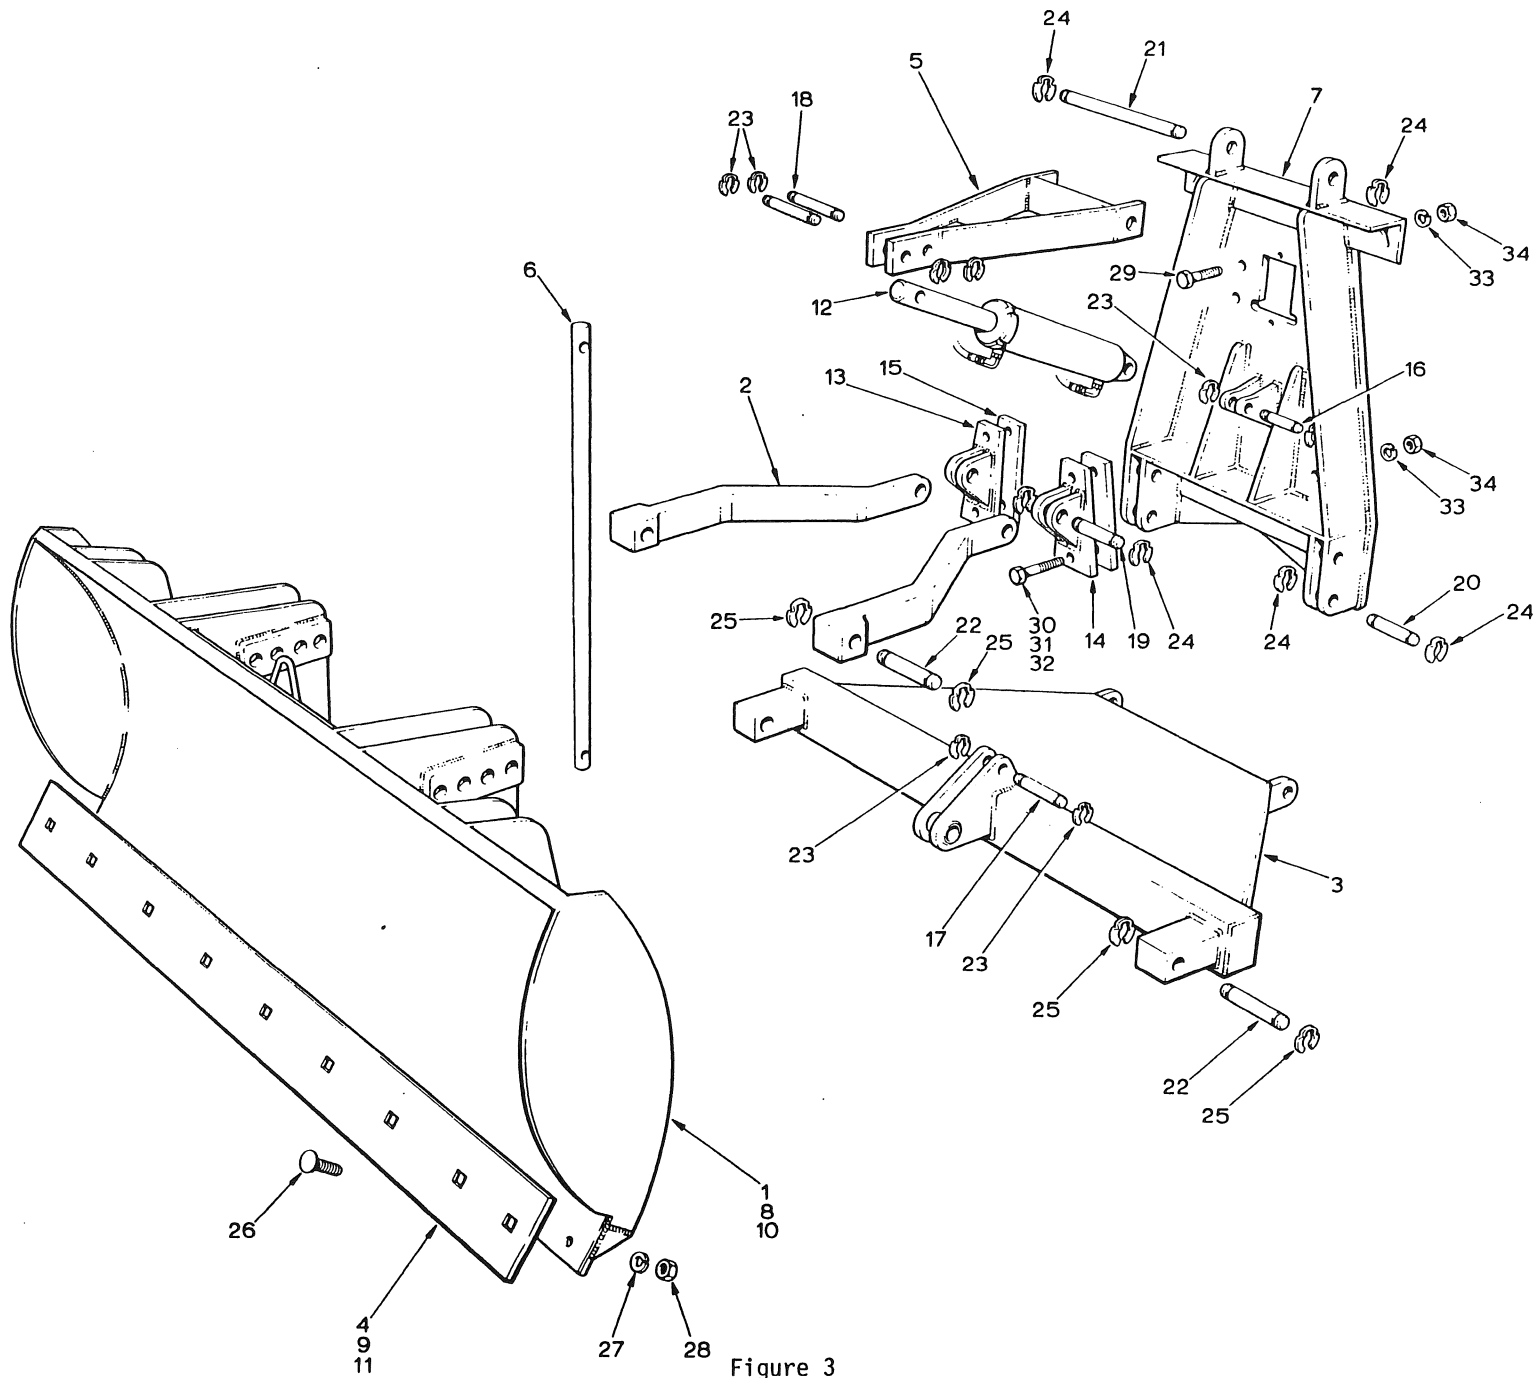
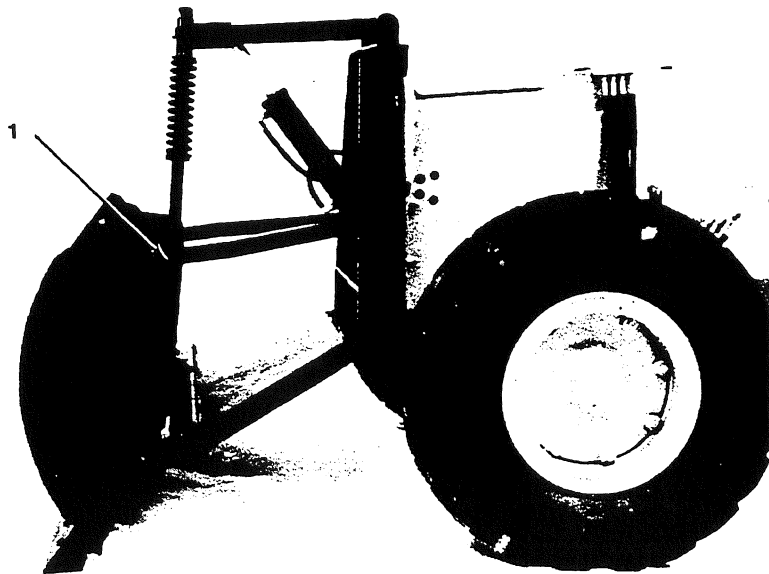

Figure 3
Figure 4
#### 1. Removal and Disassembly (Fig. 3).
11. Assembly and Installation (Fig. 3). Install the yoke (5) onto the A-frame (7), and retain with the pin (21). Secure the pin with two kliprings (24).
12. Attach suitable lifting tackle to the yoke. Hoist the yoke and A-frame into position on the grader nose plate. Install four hexagon head bolts (29), nuts (34) and lockwashers (33).
13. Place the cylinder (11) in position, and retain with the pins (18 and 16) at the yoke and the A-frame. Secure each pin with two kliprings (23). Remove the lifting tackle.
14. Install the left hand yoke (14), right hand yoke (13) and shims (15). Retain each yoke with two hexagon head bolts (30, 31 or 32), nuts (34) and lockwashers (33).
15. Place the push frame (3) into position at the A-frame attachment points. Install the two pins (20), and secure with the kliprings (24).
16. Install the lift link (6) between the push frame and yoke, and retain with the two pins (17 and 18). Secure each pin with two kliprings (23).
17. Attach suitable lifting tackle to the bulldozer blade (1, 8 or 10) and place into position at the push frame attachment points. Install the three pins (22), and secure with the kliprings (25).
18. Install the two upper push arms (2) at the right and left hand yokes. Install the two pins (19), and secure with the kliprings (24).
19. Connect the upper push arms with the bulldozer blade brackets. Install the two pins (22), and secure with the kliprings (25). Remove the lifting tackle.
### KEY TO FIG. 3
| <p>20. Re-connect the hydraulic hoses to the frame and cylinder, ensuring that each hose is connected to its corresponding fitting.</p> <p>21. Adjustments (Figs. 3 and 4). The blade pitch can be varied by removing the upper push arm pins, tilting the blade to the desired angle; then installing the pins in the nearest alternative holes (1, Fig. 4).</p> | <p>22. Worn edges (4, 9 or 11, Fig. 3) can be replaced by removing the required quantity of carriage bolts (26, Fig. 3), nuts (28, Fig. 3), and lockwashers (27, Fig. 3); then removing the edge.</p> <p>23. Install a new edge, and retain with the carriage bolts, nuts and lockwashers.</p> |